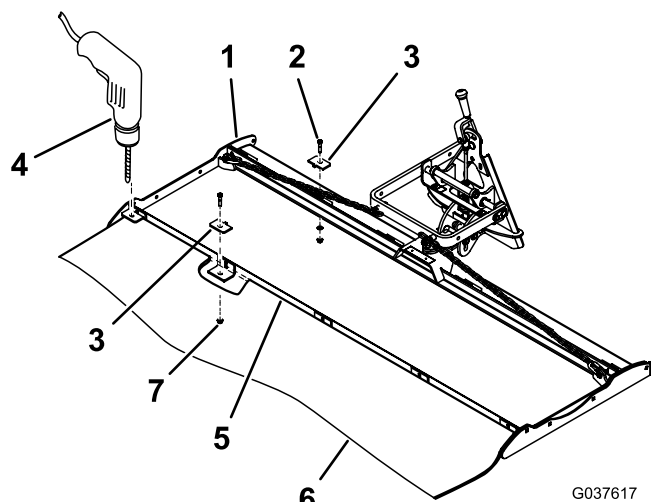

Figure 7
2. If you are installing the coconut-fiber mat, drill a hole (3/8 inch) in the mat at each clamp location, using the mat retainer as a template (Figure 7).
3. For either mat, secure the edge of the mat to the drag mat carrier as shown in Figure 7, using 5 bolts (3/8 x 1 inch), mat retainers, and flange nuts (3/8 inch).